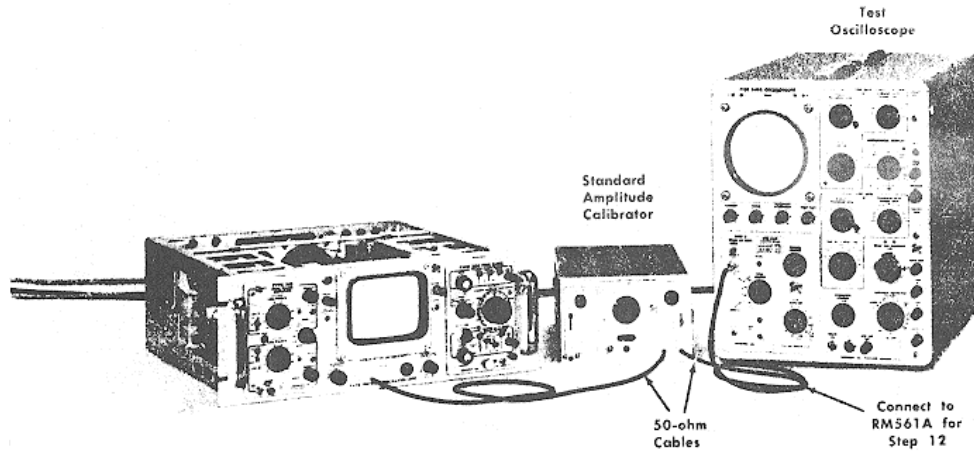

Fig. 6-13. Test equipment setup for geometry adjustment and CALIBRATOR check.
13. Adjust Cathode-Ray Tube Geometry **①**
- a. Test equipment setup is shown in Fig. 6-13.
a. Test equipment setup is shown in Fig. 6-13.